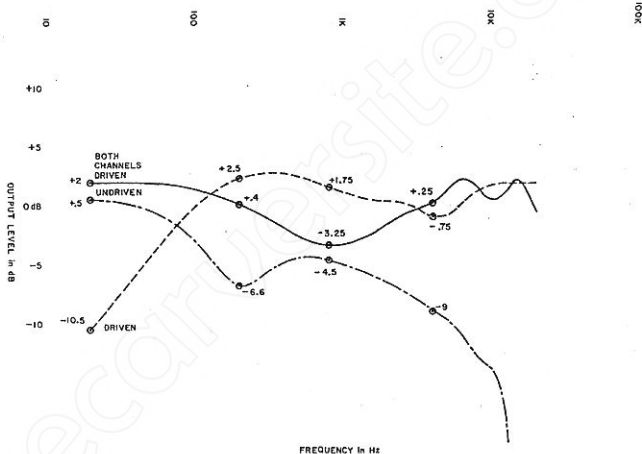

Figure 6-3. Hologram Frequency Response
C) Referring to Figure 6-3 below, verify that the output signal levels are within $\pm 1.5\text{dB}$ of the values indicated at each of the test points (circled). Drive one channel alone to measure the "driven" and "undriven" responses; drive both channels simultaneously to measure "both channels driven". Adjust input frequency and repeat until all 12 test points have been verified. Table 6-3 lists the acceptable ranges.